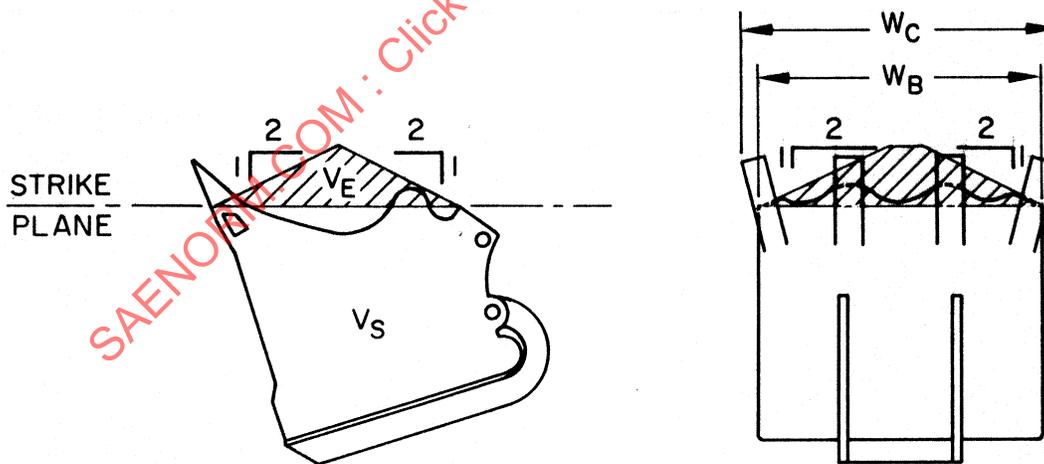

FIGURE 1—SHOVEL DIPPER
- 3.1 **Shovel Dipper**—SAE struck capacity is the volume of the dipper after it has been struck at the strike plane. The strike plane shall pass through the top edge of the dipper and the cutting edge (see Figure 1).
3.2 Shovel Dipper—SAE rated capacity is the sum of the SAE struck capacity and the material heaped on the dipper at a 2:1 angle of repose (see Figure 1). This in no way implies that the shovel must carry the dipper oriented in this attitude, or that all material will naturally have a 2:1 angle of repose (see Equation 1).
- 4.1** The dipper or bucket width is measured over the sides of the dipper or bucket at the lower lip without teeth or side cutters attached (see W_B , Figures 1, 2, and 4).
- 4.2** The cutting width is measured over the teeth or side cutters (see W_C , Figure 1). For buckets or dippers having teeth installed inside the width (W_B), the cutting width (W_C) is also the bucket or dipper width.